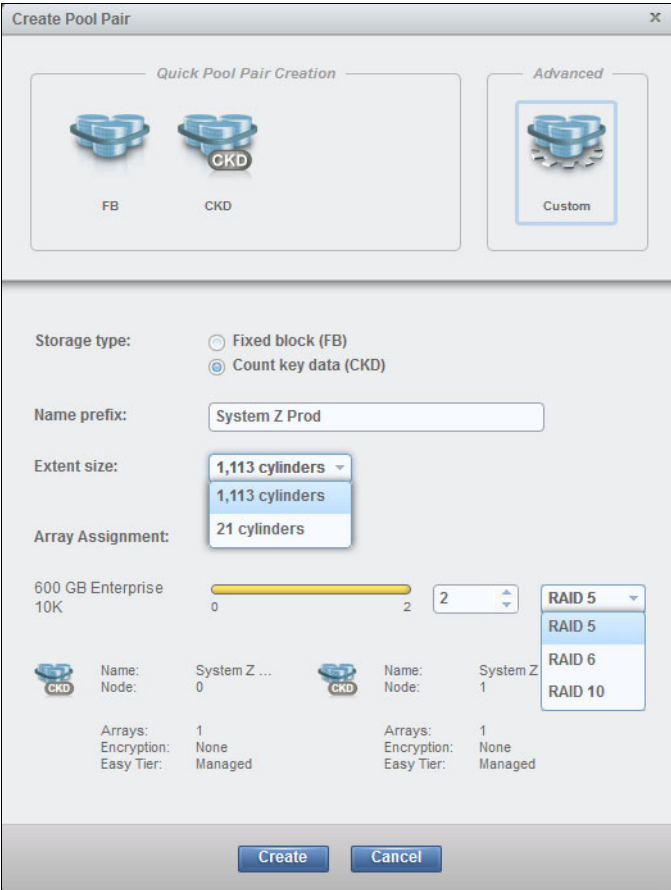

Figure 11-69 Configure CKD Storage Pools with Advanced Options
- Specify the pool pair parameters, as shown in Figure 11-69:
Figure 11-69 shows custom configuration options.